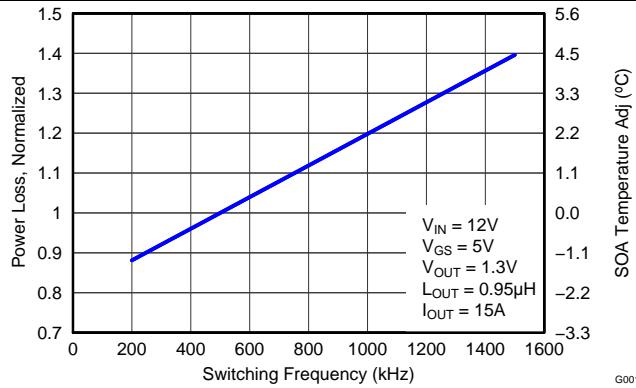

Figure 5. Normalized Power Loss vs Switching Frequency
- Normalized Power Loss for switching frequency  $\approx 1.11$  (Figure 5)
- SOA adjustment for switching frequency  $\approx 1.03^{\circ}\text{C}$  (Figure 5)